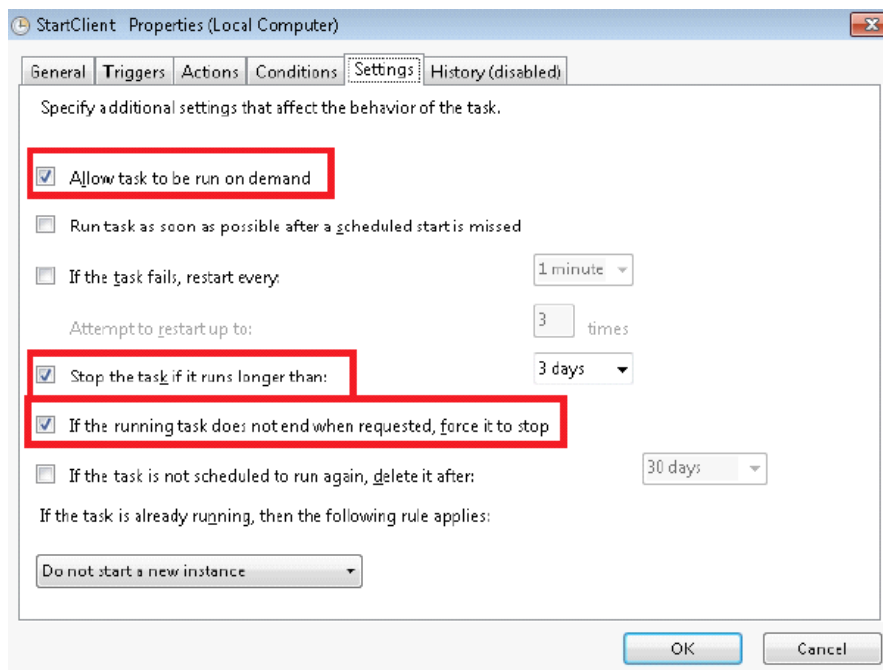

Fig. C.48: Settings tab
STEP 15 – Please select *Settings* tab and verify the options according to Fig. C.48.